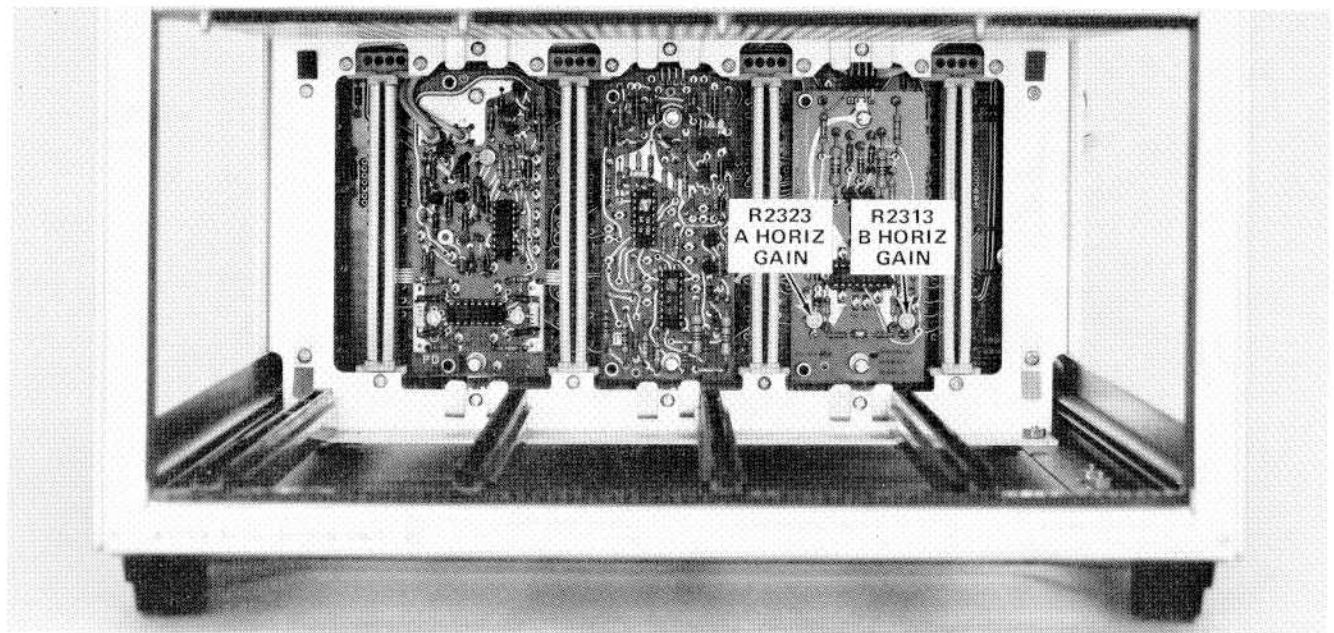

Fig. 3-6. Location of adjustments on A23, Horizontal Interface board.
- i. ADJUST—A Horiz Gain adjustment R2323 (see Fig. 3-6) for exactly six divisions of deflection between the second and eighth traces.
- l. Repeat parts h and i of this step; adjust B Horiz Gain adjustment R2313 (see Fig. 3-6) for the correct test-oscilloscope display.